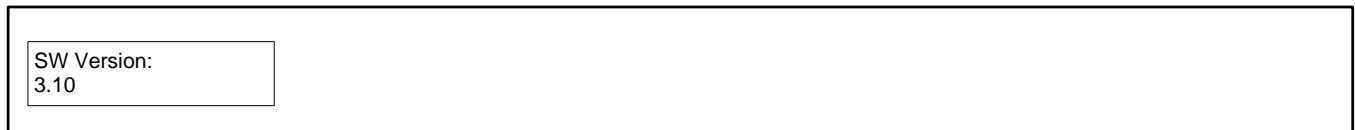

Figure 18 SW Version Submenu
6. Rotate the selector dial clockwise to navigate to the (firmware) SW Version submenu as shown in Figure 18